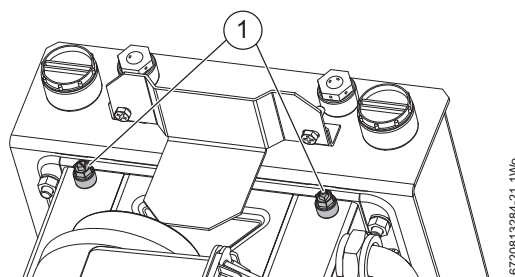

Fig. 6 Manual vent points
- See figure 6 for appliance manual vent points.